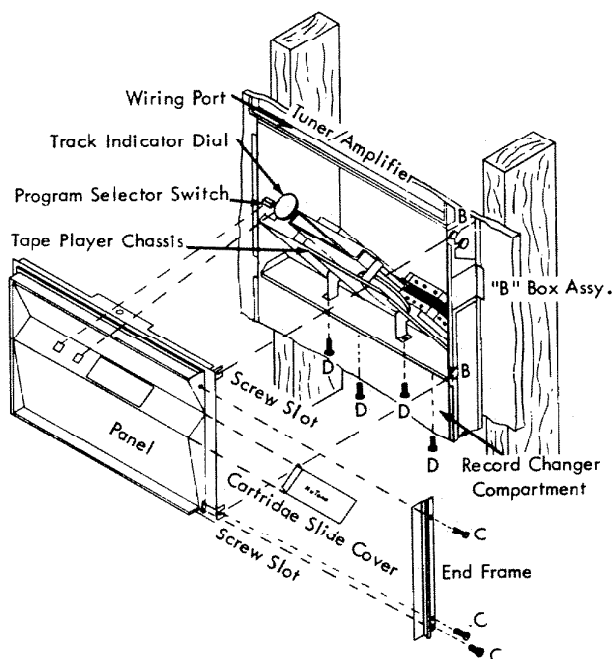

Fig. 1.26 — 8-TRACK TAPE PLAYER ASSEMBLY
- (2.4) Loosen the two knurl nuts on weld screws each side of "B" Box Assy. and slide tape player's front panel forward, clearing tape player and center compartment of "B" Box Assembly. (Fig. 1.26)
NOTE: To remove 8-Track Tape Player from "B" Box Assembly, complete steps (2.4) and (2.7) through (2.9) above and, remove four screws "D" through bottom of center compartment into tinnerman clips holding table player in position. (Fig. 1.26)